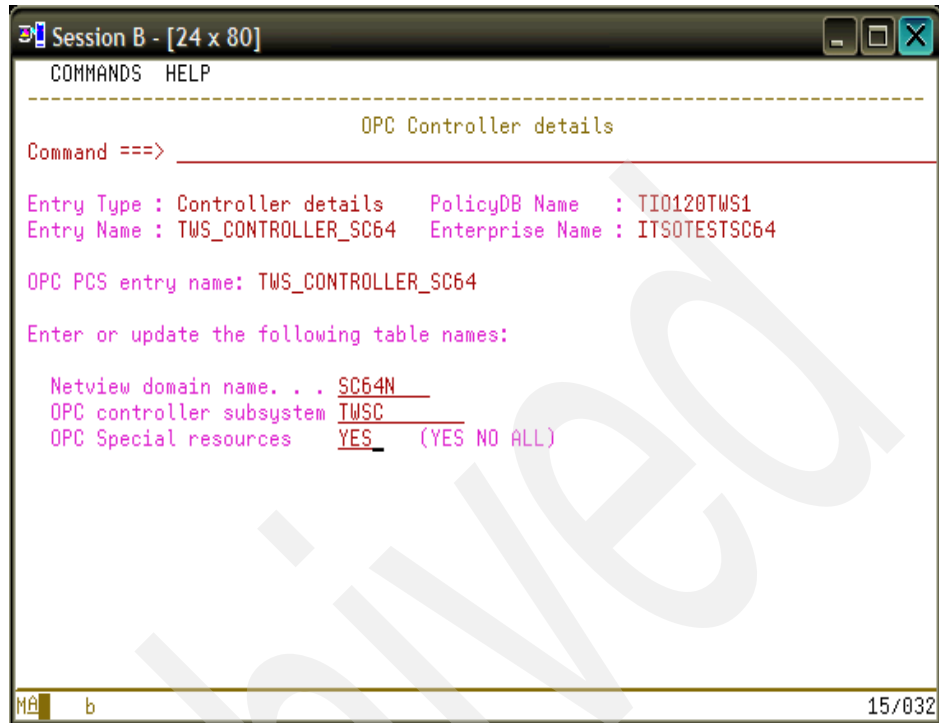

Figure 4-57 OPC Controller details panel
5. Place an s in the Action field for OPCA PCS and press Enter. The OPC Controller details panel that is shown in Figure 4-57 on page 163 displays.